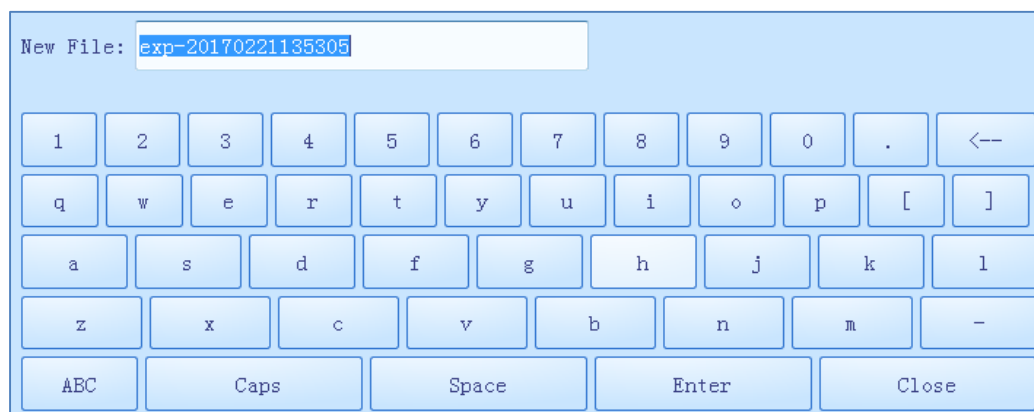

Figure E-2.4 Experiment File tab - keyboard
- ❗ **Reminding:** the system will pop up a keyboard for user to name the new experiment file or file folder, as shown in figure E-2.4. User can press < **Close** > to exit the keyboard.